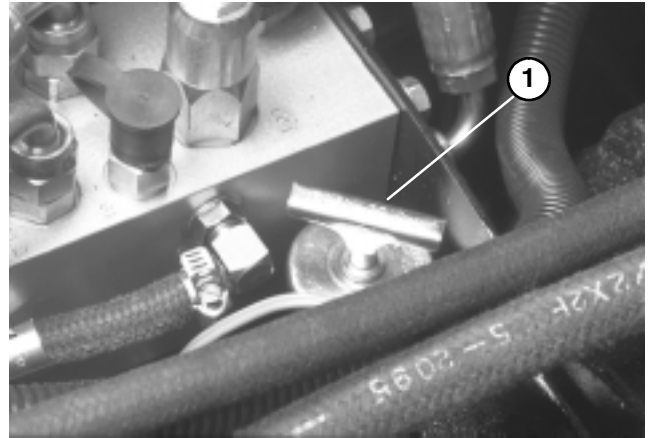

Figure 7
CHECK HYDRAULIC FLUID (Fig. 7)
2. Unscrew dipstick cap (Fig. 7) from the filler neck and wipe it with a clean rag. Screw dipstick cap finger tight onto filler neck. Unscrew the dipstick and check level of oil. If level is not up to FULL mark on dipstick (Fig. 7), add enough oil to raise level to mark. **DO NOT OVERFILL.**